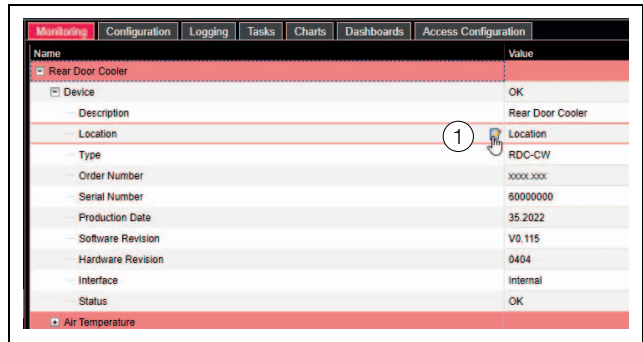

Fig. 98: Editable parameter with "Edit" symbol
For all parameters that can be changed, an "Edit" symbol in the form of a stylised notepad and pen will appear after the respective parameter if the mouse pointer is placed in the relevant line (fig. 98, item 1).